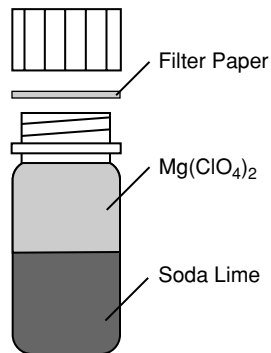

Figure 5-4. Fill the bottles with soda lime, followed by magnesium perchlorate.
2. Before removing the bottles, prepare the new bottles (in spares kit) by filling them with equal parts soda lime and magnesium perchlorate (Figure 5-4). Fill the bottles half full with soda lime first, followed by the magnesium perchlorate. Place a filter paper disk in the lid to keep the chemicals from spilling into the detector housing.